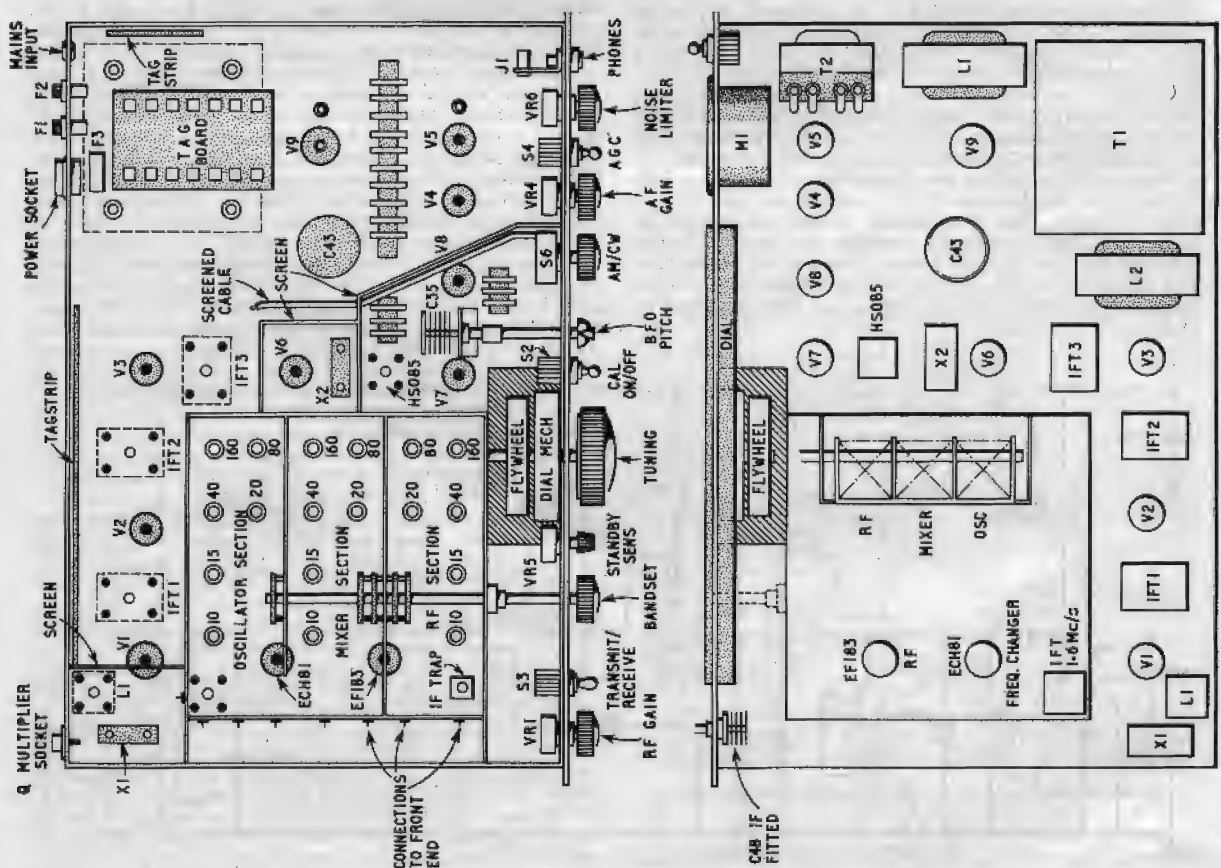

Fig. 21. The layout of the receiver showing the positions of the major components.
**Construction:** The final layout is shown in Fig. 21; this differs slightly from the photographs which were taken at an earlier stage of development. It is recommended that 16 s.w.g. aluminium is used for the chassis work, which should be well braced.